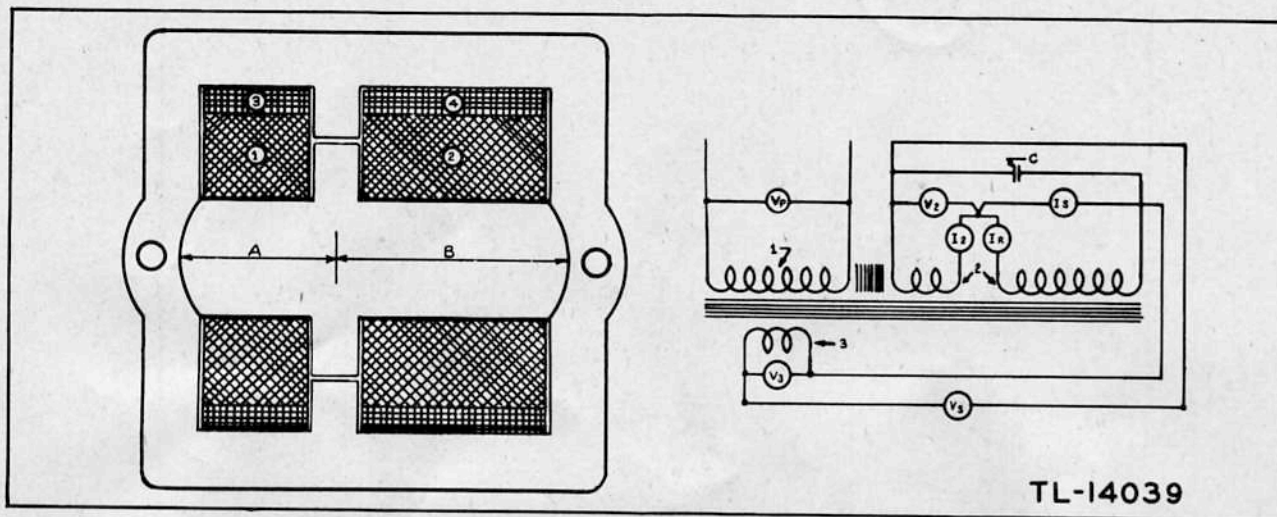

Figure 30. Constant voltage transformer, cross section of transformer and schematic diagram.
c. **Constant Voltage Transformer Circuit.** The constant voltage transformer employs a combination of resonant circuit action with that of a transformer having high leakage reactance. A specially shaped lamination, shown in figure 30, is employed. The side bars on the core form a magnetic shunt contributing to the regulatory action of the transformer.
(1) The windings are as follows:
(2) The output energy is largely drawn from the resonant circuit. The voltage in the tank circuit is stabilized by the action of the magnetic shunt interposed between the primary and the tank circuit.
(3) The voltage appearing across the tank circuit varies slightly with changes in primary voltage. These small variations are to a large extent compensated for by opposing the output voltage with a small voltage developed across the compensating winding.